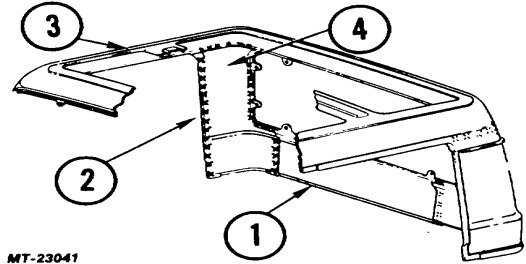

Fig. 52. Installing Inner Corner Panel (Right Side - 80" Wide Cab Shown)
6. Plug weld through holes drilled for removing to replace inner corner panel to inside of cab (Fig. 52). If new inner corner panel is used, plug weld holes must be drilled into new panel before welding.